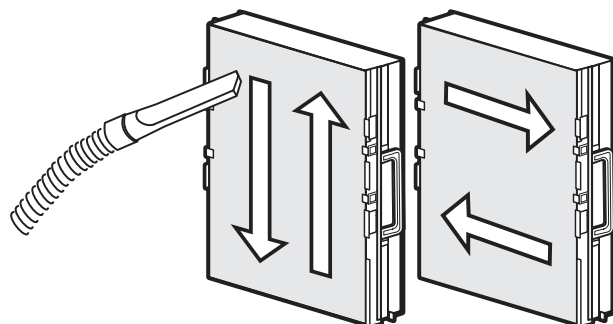

Fig. 8
- Using a vacuum hose, vacuum in even strokes across the entire COLLECTION CELL surface. Vacuum using even strokes in one direction, then repeat the process using even strokes in the opposite direction, as demonstrated in Figure 8 below.